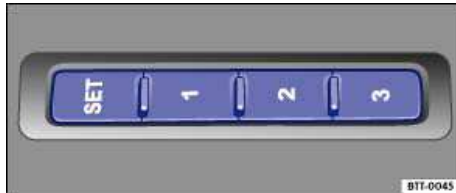

Fig. 52 On the outer side of the driver and front passenger seats: Memory buttons.
- Press the  button for at least 1 second ⇒ fig. 52.